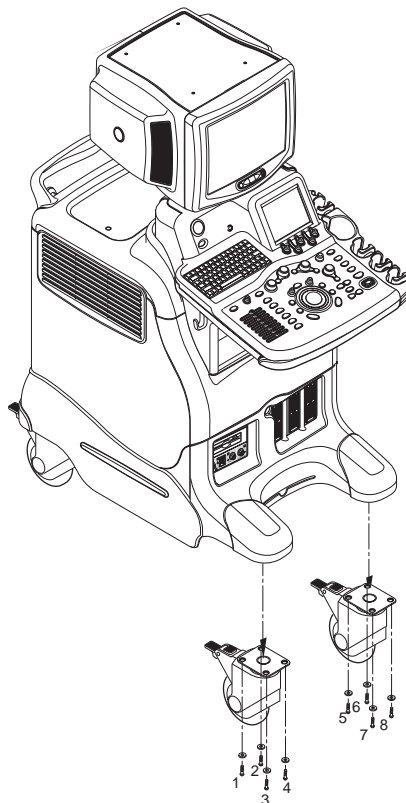

Figure 8-84 Removing the Front Caster
- 1.) Unscrew eight (8) hexagonal bolts (1-8).
- 2.) Remove the Front Caster. Refer to Figure 8-84.